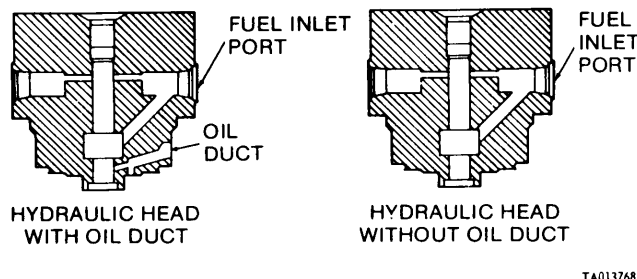

Figure 3-124. Identification of hydraulic heads with oil lubrication ducts.
(3) Refer to figure 3-124. If hydraulic head assemblies HD9070A or HD9085A with an oil duct are replaced by a later model hydraulic head assembly, it will be necessary to plug the oil duct in the pump housing utilizing kit 5704374. Refer to table 3-2 to determine correct hydraulic head application.